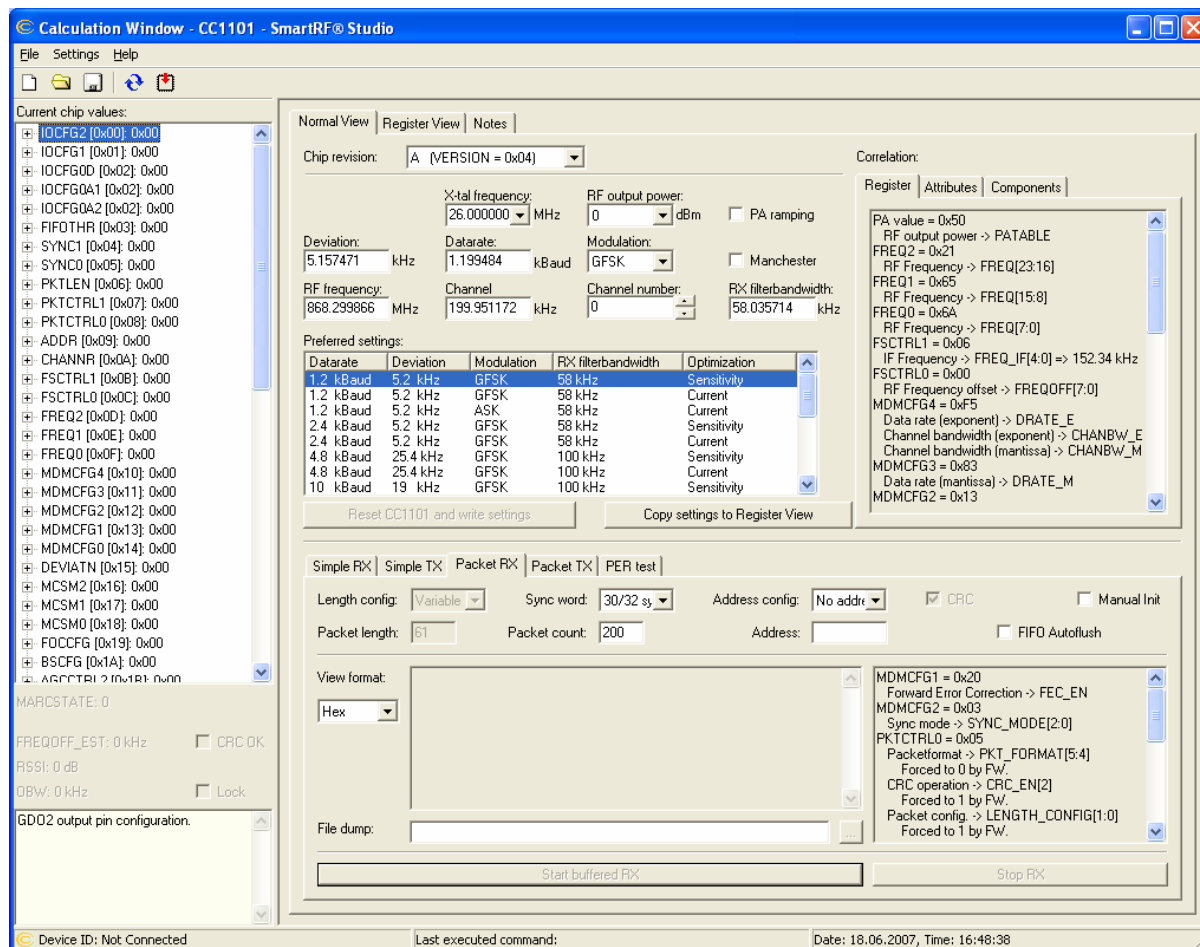

Figure 6: SmartRF® Studio [7] User Interface
**CC1101** can be configured using the SmartRF® Studio software [7]. The SmartRF® Studio software is highly recommended for obtaining optimum register settings, and for evaluating performance and functionality. A screenshot of the SmartRF® Studio user interface for **CC1101** is shown in Figure 6.